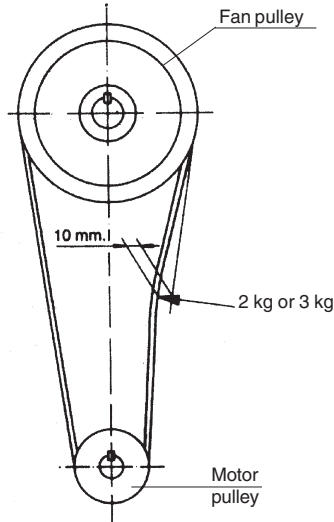

Fig. 39
3. Belt tension (see Fig. 39)
The minimum belt deflection is 10 mm when the force shown in Fig. 39 is applied.